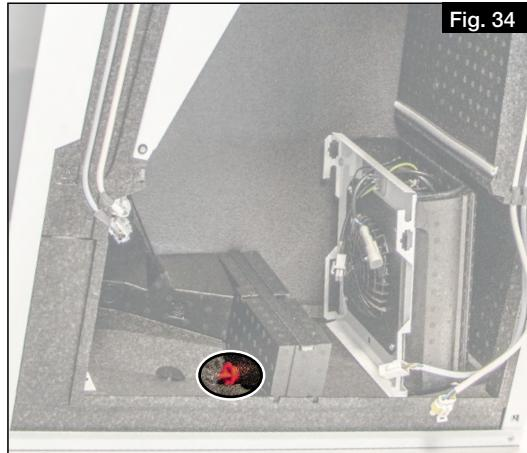

Fig. 34
- ① If the cold recovery system is activated, the plug at the bottom of the unit must be removed (see Fig. 34) to ensure the condensate drainage (cf. also chapter 4.3 „Install ball siphon“, page 12).